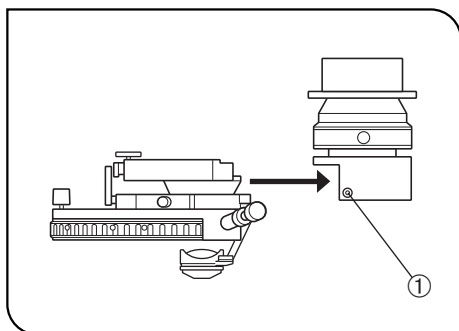

Fig. 94
(Figs. 94 & 95)
1. Using the Allen screwdriver, loosen the two setscrews ① on the IX-ADUCD UCD adapter. (Fig. 94)
3. Tighten the two setscrews ① using the Allen screwdriver. (Fig. 94)